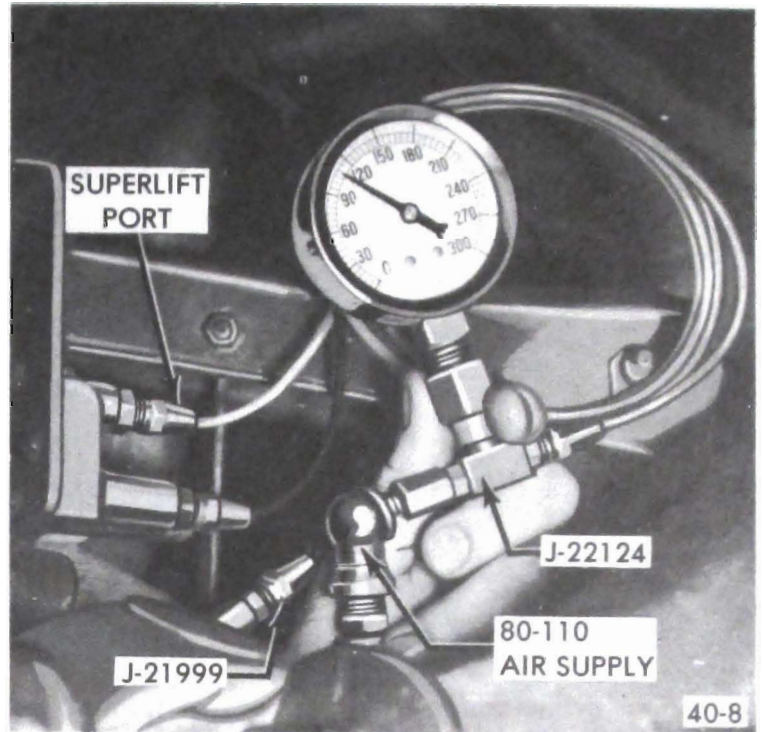

Figure 40-30 - Connect Test Gage to Superlift Outlet
5. Connect test gage J-22124 to Superlift outlet on height control valve and attach an 80-110 psi air pressure source to test gage. See Figure 40-30.